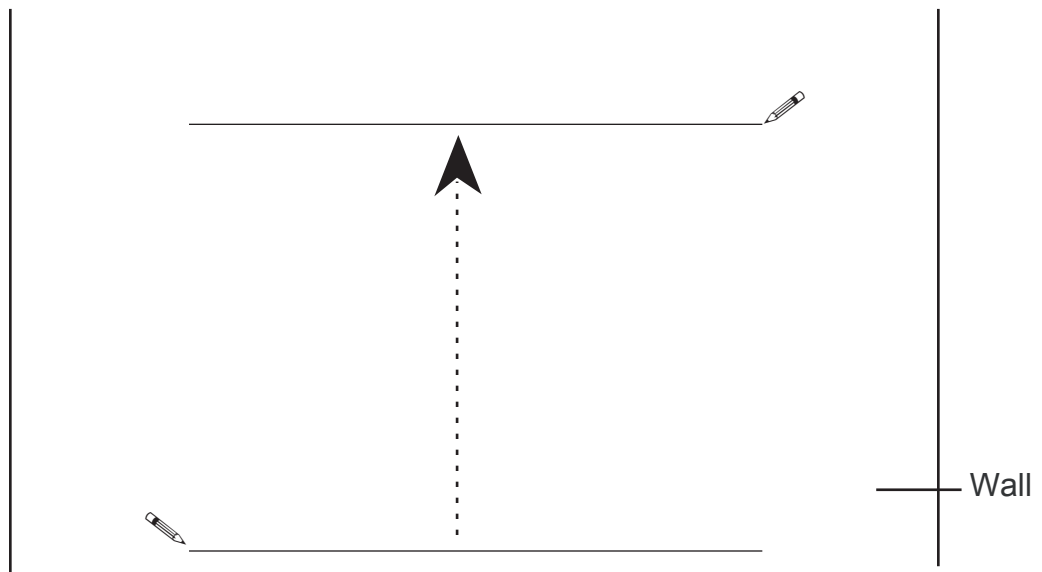

Fig. 8
8. Determine where you want the **bottom** of your storage shelf to end and draw a faint pencil line on the wall. Using a tape measure, measure up 15 inches from that line. Draw another faint line. The top line is where you will attach the Wall Brackets (K). Erase the faint bottom pencil mark. See Figure 8.